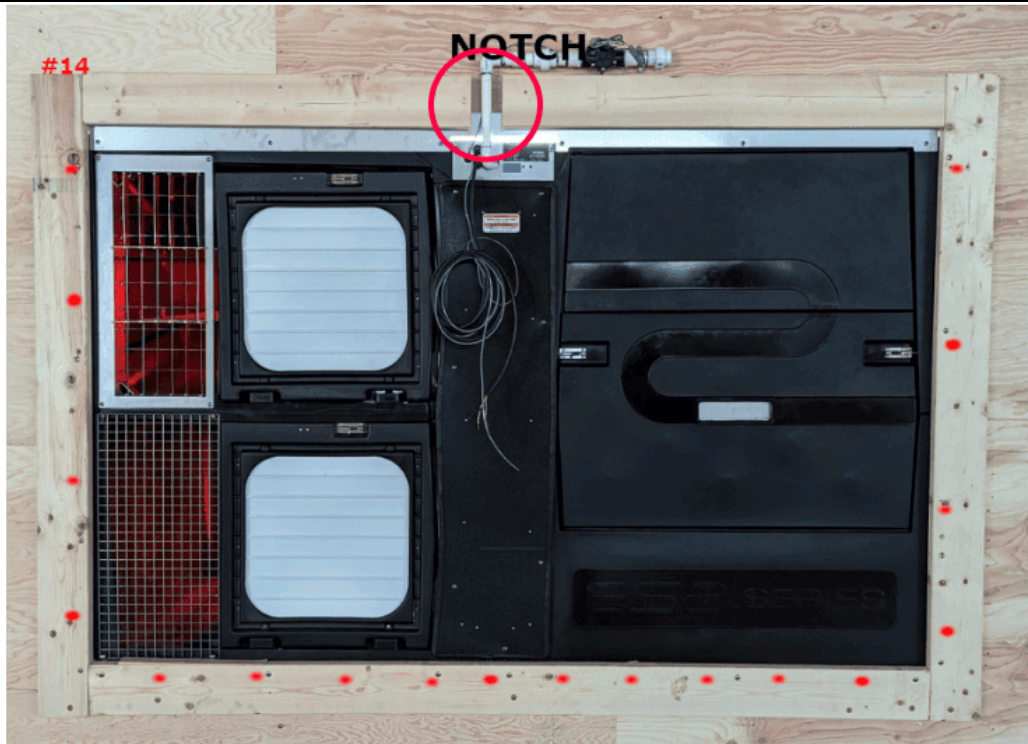

Figure 33 Screw positioning on each side of the frame
- c. Cut an opening in the upper section of the frame (as shown by the red circle in Figure 33) to allow passage of the water and electrical lines.